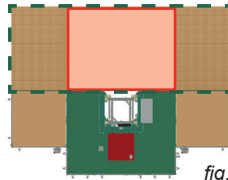

fig. 1.92
- 3- Install planks to cover the area in front of the mast (fig. 1.92).
- 5- Make sure to **remove the planks from the area in front of the mast** (fig. 1.92). Make sure that the outriggers clear all obstacles. Lower the motorized unit to the next lower tie level (as shown in fig. 1.85, p. 38).